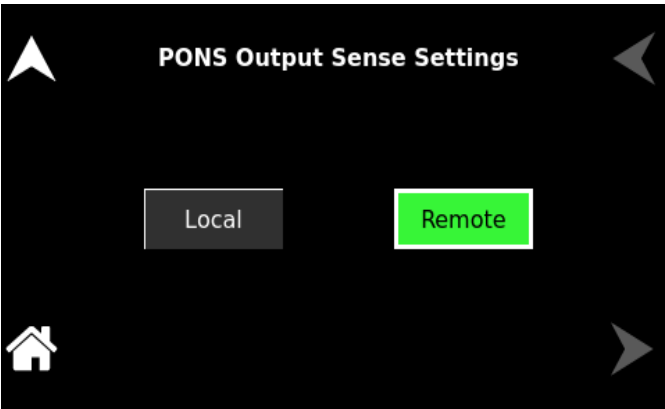

Figure 11-84. PONS Output Sense Settings
**PONS Output Sense** User can program the PONS output to ON or OFF state Refer to Figure 11-84.